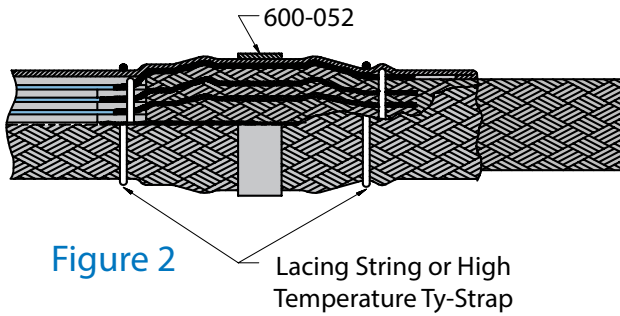

Figure 2 Lacing String or High Temperature Ty-Strap
7. Bring the shield sock from backshell and completely cover the pigtailed and support ring. Trim and fold the braid as shown in Figure 2. Lace tie the shield adjacent to support ring ends.
8. Install a Glenair Band-Master ATS® band between the lace ties onto the center of the support ring as shown in Figure 2. 600 Series Band-Master ATS® hand banding tool or pneumatic banding tool is used for this process.